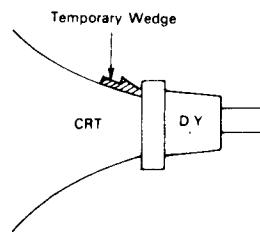

FIGURE 5
5. Move the two Purity Magnets and bring the Magenta belt to the mechanical center of the screen (See Fig. 5). The vertical center position should be set VRS to $-5/64"$ ($-2mm$) as shown in Fig. 6.
11. Insert the temporary wedge as shown in Fig. 5 and adjust the angle of Deflection Yoke.